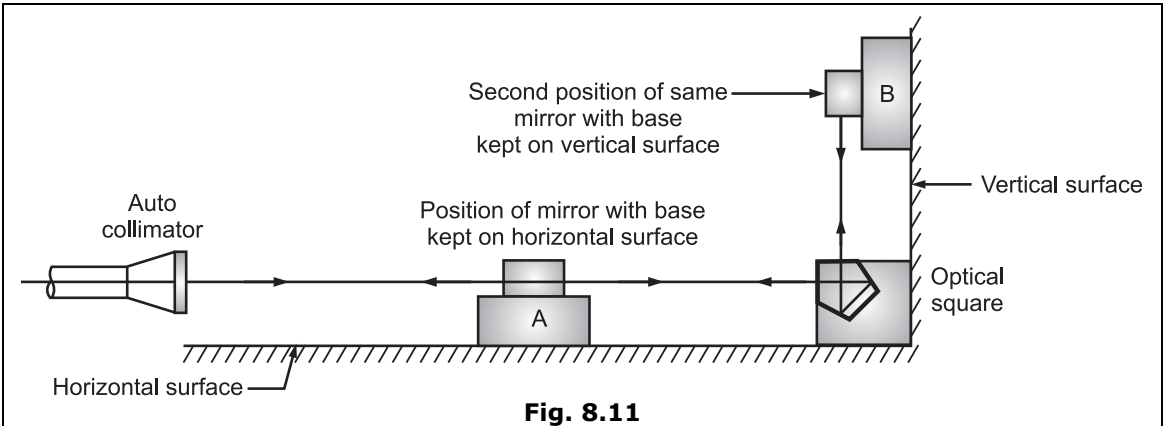

Fig. 8.11
- A reading is taken in collimator at position 'A'. Refer figure 8.11.
- Now, the mirror block with base is kept over the vertical surface at position B as shown in the Fig. 8.11 and optical square reading is noted down in position 'B'.